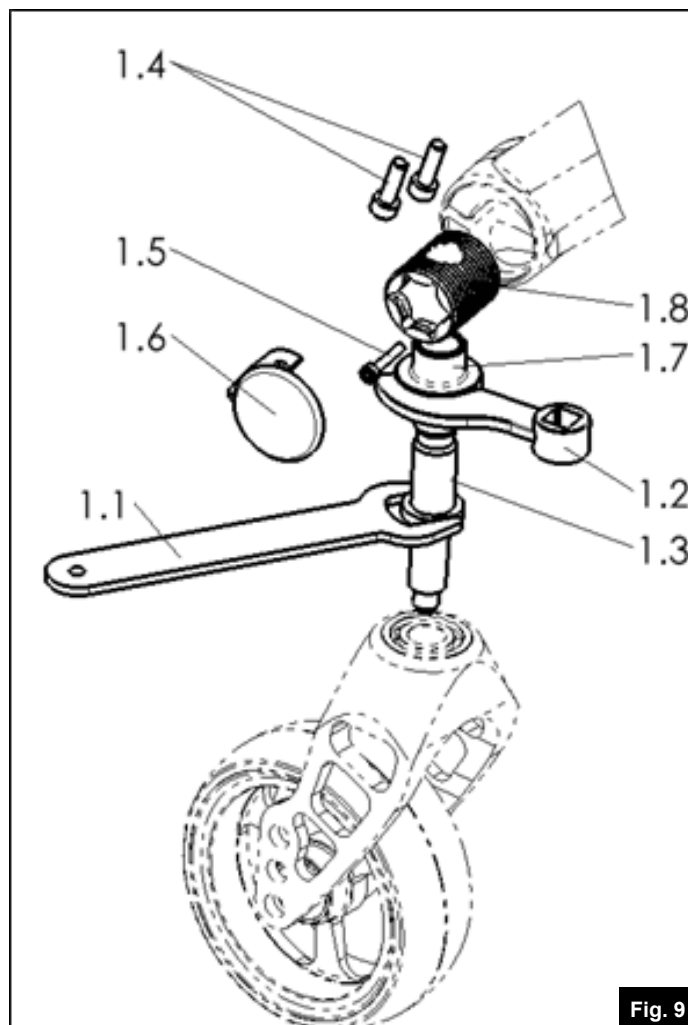

Fig. 9
- Remove the M6 screws shown in position 1.4 (Fig. 9) with an Allen key.
- Remove the cap shown in position 1.6 (Fig. 9)
- Remove the safety screws in position 1.5 (Fig. 9) with an Allen key.
- Open lock nut as shown in position 1.7 (Fig. 9) with tool kit 66009203-ET.
- Remove caster bolt in position 1.3 (Fig. 9) as shown in Position 1.1.
- Assemble the caster bolt in Pos 1.3 (Fig. 9)
- Lock the safety screws in Pos 1.5 (Fig. 9)
- Lock the cap shown in position 1.6 (Fig. 9)
- Lock the nut in Pos 1.7 (Fig. 9) using a torque of 28 Nm.
- Adjust the M6 screws shown in position 1.4 (Fig.9) using a torque of 7 Nm.